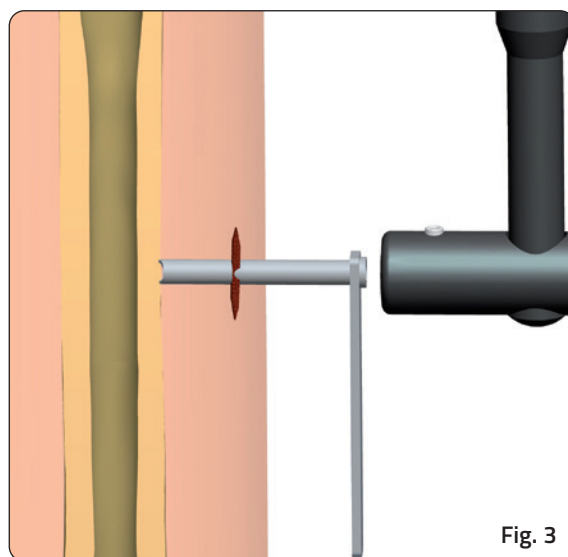

Fig. 3
3. Keeping the screw guide in contact with the cortex by gentle pressure, withdraw the trocar, and tap the screw guide lightly to anchor the pronged end against bone (**Fig. 3**).